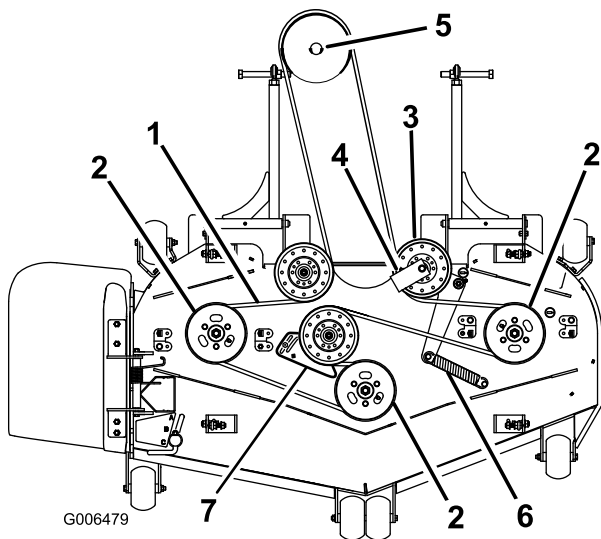
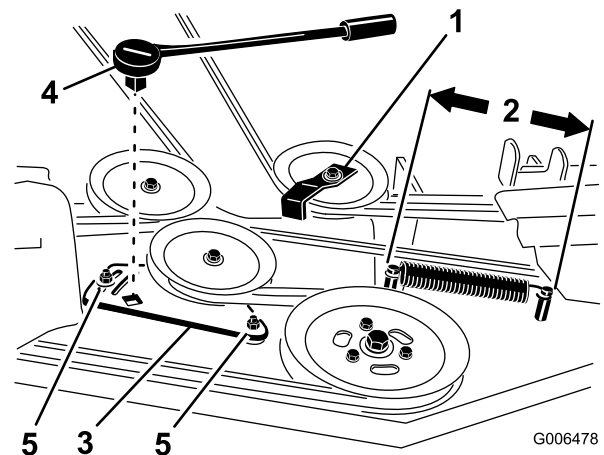

Figure 64
Figure 66
4. Loosen the idler plate bolts holding the idler plate (Figure 66).
6. Remove the belt guide on the spring loaded idler pulley shown in Figure 64 and Figure 66.
8. Install the new belt around the mower pulleys and the gearbox pulley under the engine (Figure 64).
9. Install the belt guide on the spring loaded idler at a 45 degree angle as shown in Figure 64 and Figure 66. Torque the bolt to 27 to 33 ft-lb (37 to 45 N-m).
10. Install the idler spring to the two posts (Figure 64 and Figure 66).
4. Measure the spring length (Figure 66). If the spring length is between 10 and 10-1/4 inches (25.4 and 26.0 cm), from post to post, no adjustment is needed.
5. Loosen the bolts holding the idler plate (Figure 66).
6. Insert a ratchet or breaker bar into the square hole in the idler plate to adjust the tension (Figure 66).
7. Rotate the ratchet or breaker bar to move the idler plate until the idler spring is between 10 and 10-1/4 inches (25.4 and 26.0 cm) from post to post as shown in Figure 66.
8. While holding the belt tension and spring length, tighten the idler plate bolts that secure the idler plate (Figure 66).